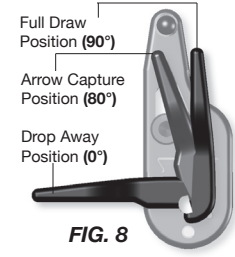
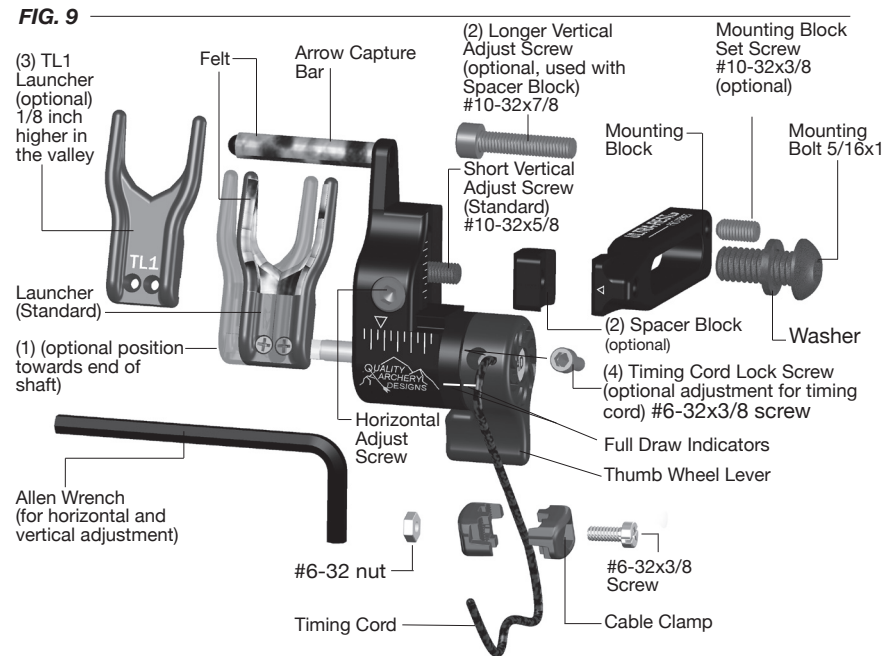

FIG. 8
FIG. 9
- 1** Fasten the **Ultra-Rest™** to your bow riser using a 3/16 Allen Wrench (not included), Mounting Bolt, and Washer from the Parts Kit. (For additional fastening, tighten the Mounting Block Set Screw.) (Fig.9)
- 2** Attach the Cable Clamp to the downward traveling buss cable. Use the #6-32x3/8 Panhead Phillips Head Screw, and the #6-32 nut. Engage Screw just one turn. (Fig.9)
- 5** The Cable Clamp **MUST** be able to slide in this step. With the cord holding the Launcher in the Full Draw Position (90°), draw the bow. The Cable Clamp will slide up the buss cable and self adjust to correct location. Slowly let down bow, then tighten the Cable Clamp Screws. Timing is now complete. Tune the rest then apply Felt. (Fig.9)
(Fig.7) (Fig.8)
- (1) Move screws in Launcher to closest holes toward end of shaft.
- (2) Insert the Spacer Block and longer #10-32x7/8 screw. (Fig.9)
If your arrows kicknock low and the Launcher is receiving fletching contact replace the standard Launcher with the TL1 Launcher (1/8" higher), remember to adjust nocking point accordingly. (Fig. 9)
If any additional vertical, horizontal, or mounting block adjustments are made, use a 7/64 allen wrench to loosen the #6-32x3/8 socket cap **Cord Lock Screw**, located in the Thumb Wheel (5 turns). Adjust Timing Cord in or out to ensure Full Draw Position or 90° (Fig.8) is reached and Full Draw (90°) Indicator Marks align at full draw. Tighten screw to Lock Cord. (Fig.9)